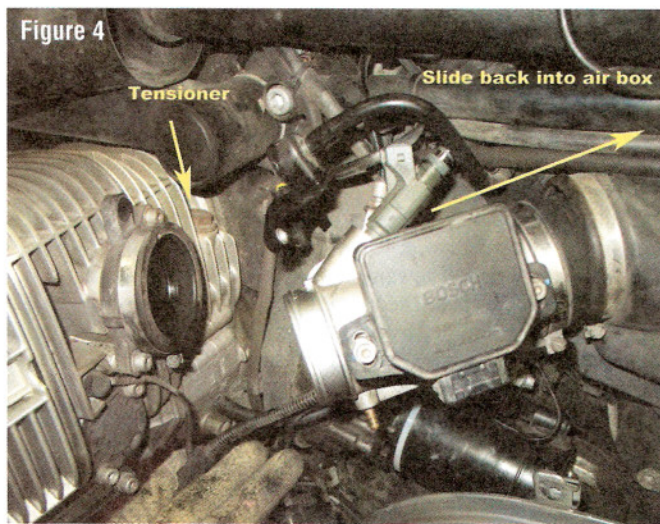

Figure 4
Now, we disconnect the TPS cable (3) and throttle body ground lead (4). At this point, we loosen the circular clamps between the throttle body and the rubber intake manifold, and between the plastic intake tube and the air box. Unlike other methodologies, here there is no need to disturb the connection between the throttle body and the plastic intake tube, eliminating the chances of destroying the delicate O-ring between these two assemblies. Now that the clamps are loose, simply slide the complete assembly back into the air box as shown in Figure 4. The throttle body/intake tube assembly may be stuck tight after all these years of stationary service—loosen it by squirting some silicone lube or WD-40 underneath the rubber gaskets at each end, patiently twist on the assembly until it breaks free, and then slide it back as shown.